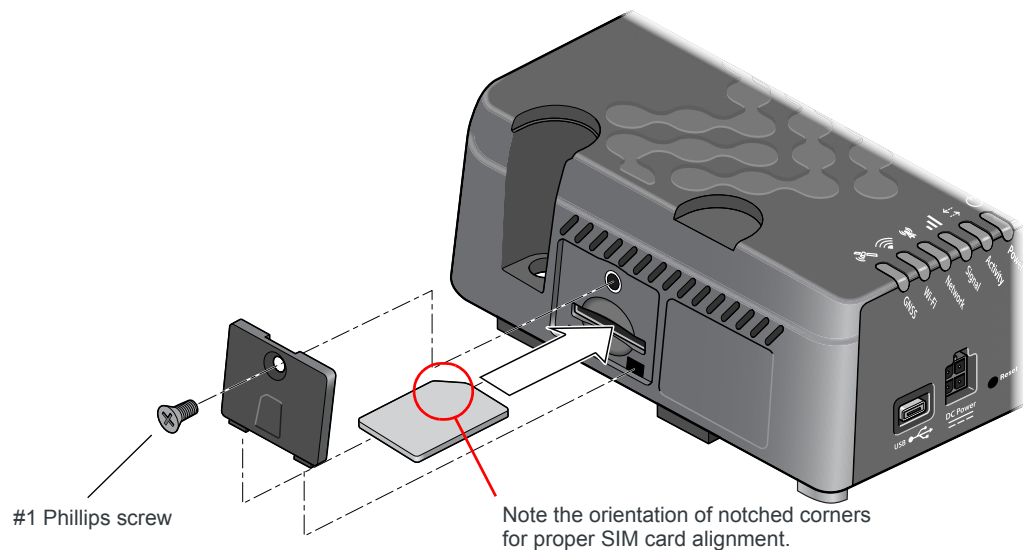

Figure 2-1: Installing the SIM Card
2. Orient the SIM card as shown in Figure 2-1 (with the gold contacts facing down).